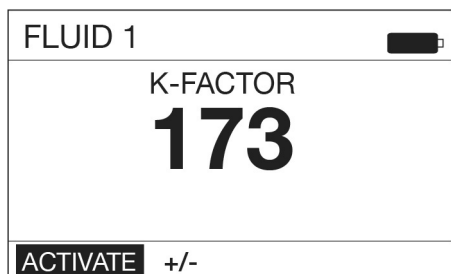

FIG. 61
2. If the meter recognizes the calibration voucher, the configuration screen shown in FIG. 61 displays.
3. The calibration k-factor screen shown in FIG. 61 displays. The number shown on the display is the k-factor the meter is currently using. After completing the calibration procedure this number may be the same or may be different than what is currently shown on the display.